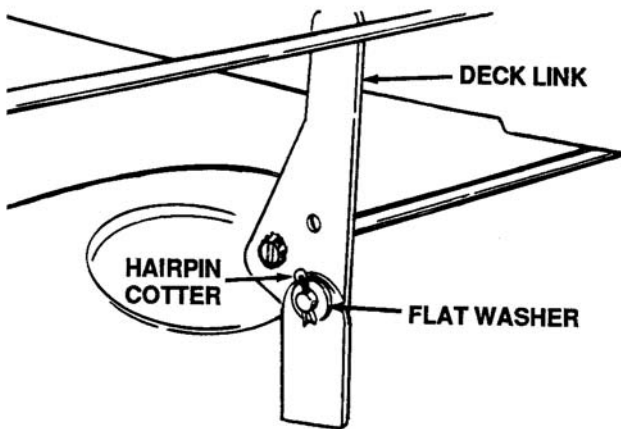

Figure 12-13. Location of Hairpin Clips
- Remove the three hairpin clips and flat washers which hold the deck links to the rider. Two are located at the rear of the deck. One is located at the front of the deck. See Figure 12-13.